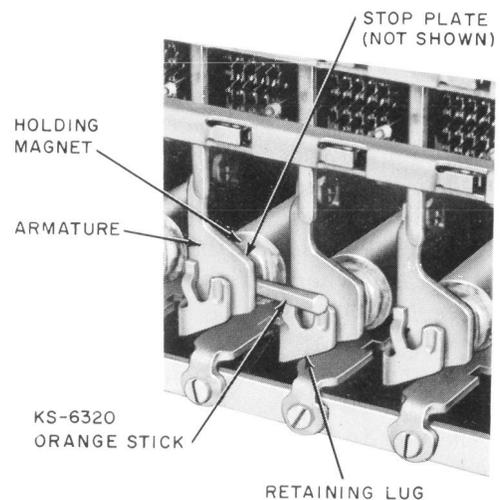

Fig. 31—Blocking 324-, 325-, 328-, 334-, and 338-Type Switch Holding Magnets - Nonoperated
Fig. 31 and 32
(1) Using a 1-1/2 inch length cut from the end of a KS-6320 orange stick, block the holding magnet nonoperated by inserting the flat end of the orange stick between the core and the holding armature with the other end of the stick resting on the retaining lug of the adjacent holding magnet stop bracket, as shown in Fig. 31. When blocking the holding magnet at the right-hand side of the switch nonoperated, place the flat part of the orange stick between the core and the holding armature at an angle of approximately 45 degrees above horizontal.
- (1) Block the holding magnet nonoperated by inserting the 768A blocking tool between the core and the holding armature, similar to the method used in Fig. 31.